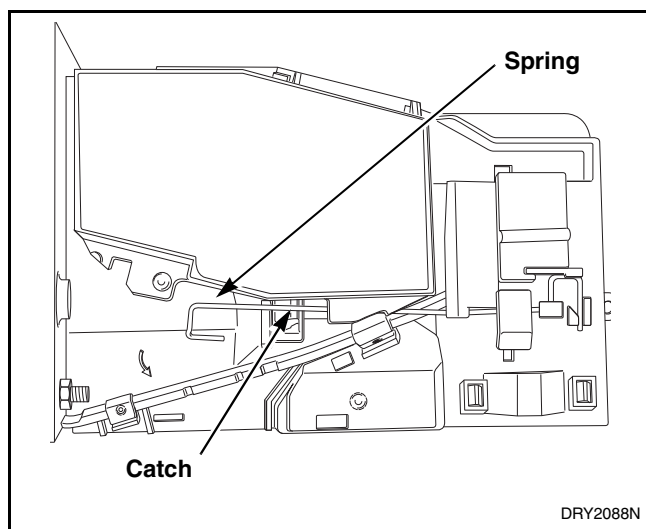

Figure 25
Coin Drops with Old-Style Spring (refer to Figure 25):
- Move spring downward until cover catch is free. Refer to Figure 25.